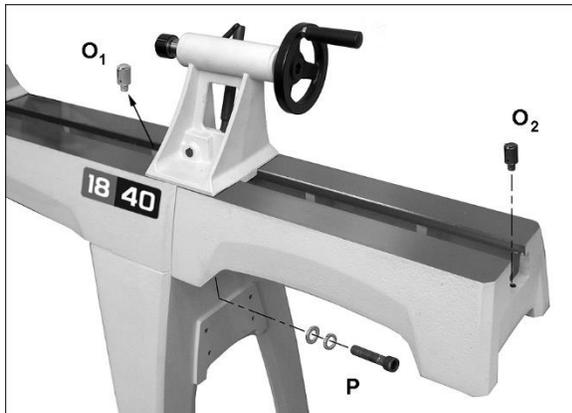

Figure 5-6: installing bed extension (optional)
1. Unscrew stud (see O, Figure 5-6) from each end of bed. (Note: studs can be stored in one of the threaded holes in lathe legs.)
7. Install headstock, tool support and tailstock, and both studs (O, Figure 5-6).
2. Have an assistant hold bed extension flush to end of lathe bed, and insert screws and washers provided with bed extension (P, Figure 5-6). Snug screws just enough to hold bed extension to lathe bed.
5. Slide tailstock over joint where beds meet, so that clamping nut is centered over joint, as shown in Figure 5-6. Lock tailstock clamping handle; this will align the beds.
6. Securely tighten screws (P) in bed extension.
To remove headstock, tailstock or tool rest base from bed, unscrew and remove either of the studs (see O, Figure 5-6). Unlock the item and slide it off bed. After remounting these items on the lathe, reinstall studs.